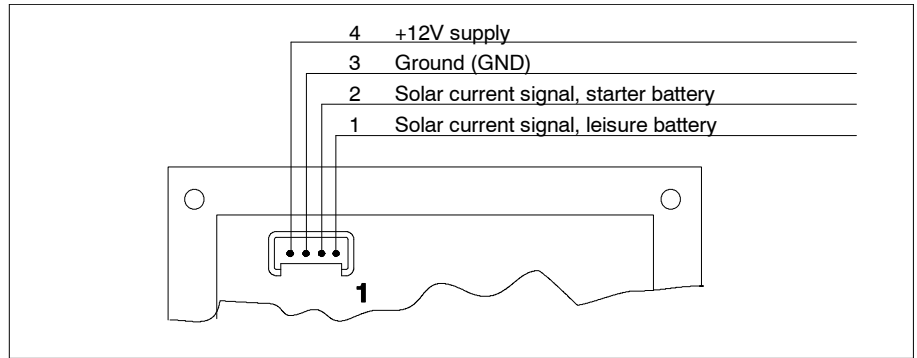

Fig. 2 LT 320 signals
- Plug the 4-pin Lumberg connector on the relevant connector cable into the LT 320 control panel (see Fig. 2).